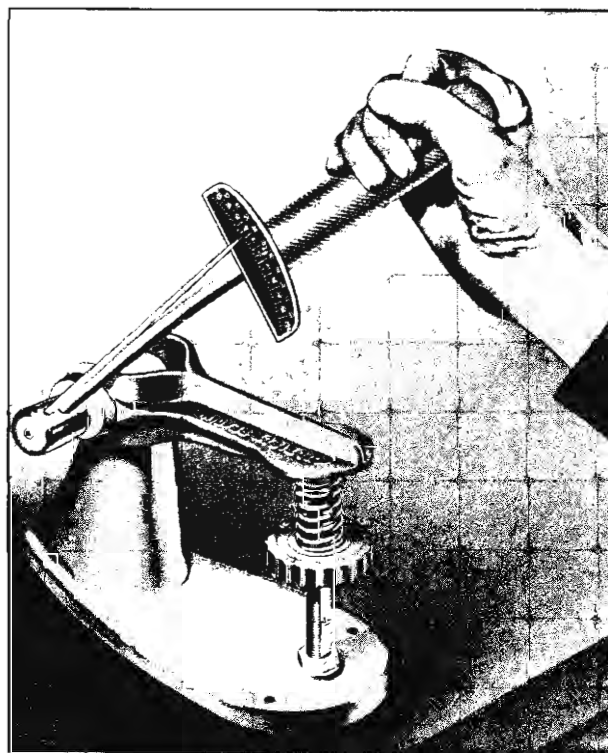

Fig. 121—Checking Valve Spring Tension
5. Check valve spring tension with Tool J-8056 (fig. 121).